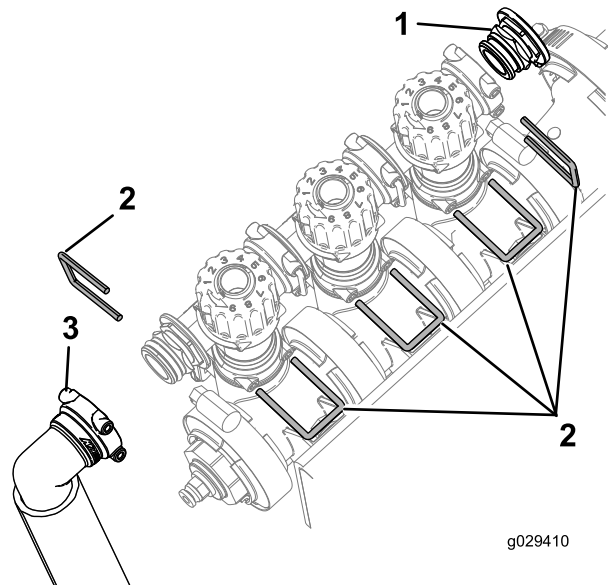

Figure 10
- Remove the retainers holding the boom bypass valve cluster assembly, end cap, and the fitting and hose assembly as shown in Figure 10.